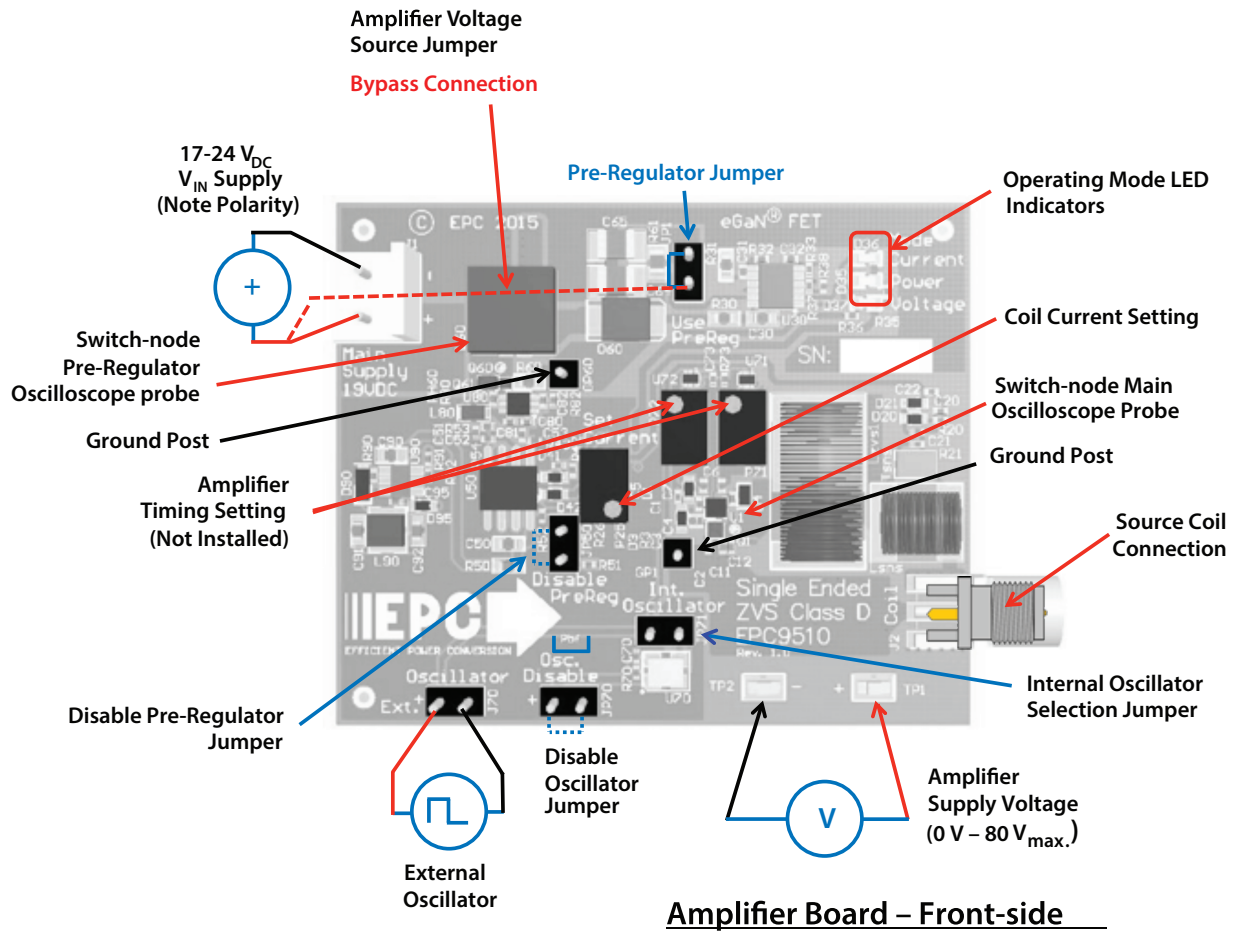

Figure 3: Proper Connection and Measurement Setup for the Amplifier Board
2. With power off, connect the main input power supply bus to J1 as shown in figure 3. Note the polarity of the supply connector.
2. With power off, connect the main input power supply bus to the bottom pin of JP1 and the ground to the ground connection of J1 as shown in figure 3.